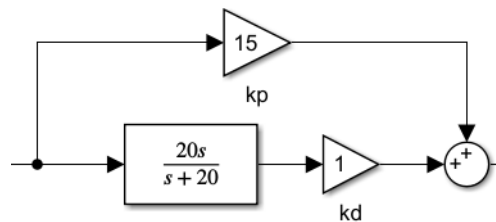

Figure 4: Proportional gain and filtered derivative gain feedback loop
5. Add a *transfer function* and derivative *gain* block k_d in parallel with the proportional *gain* as shown in Figure 4.